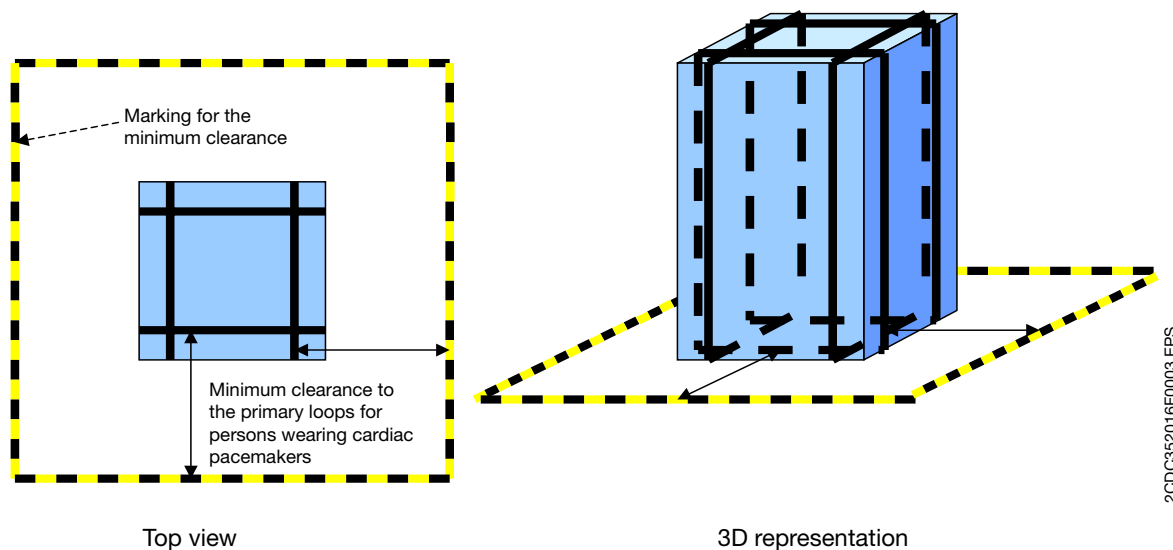

Fig. 1.5: Minimum clearances to primary loops for persons wearing cardiac pacemakers (principle representation)
- Persons with cardiac pacemakers have to observe minimum clearances to the primary loops. Refer to the explanations below and fig. 1.5.
If the machine/installation does not have a fence around it to determine this distance (for minimum distances please refer to the following table and fig. 1.5), a black-yellow line has to be attached to the floor in order to make the distance clear.
- d In order to avoid inadmissible contact voltages at those interrupted ring constructions in the immediate neighborhood of a primary loop, the area of the ring construction must have a minimum clearance of 30 mm to the nearest primary loop area, if the relevant area is not larger than 9 m² (see fig. 1.5). For larger primary loops up to 18 m² this distance has to be increased linearly up to 120 mm.